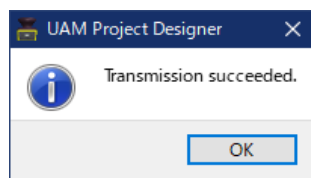

Figure 7-64 Transmission complete window
- h) Dialog box as shown in Figure 7-64 will appear. Click OK to complete the save.